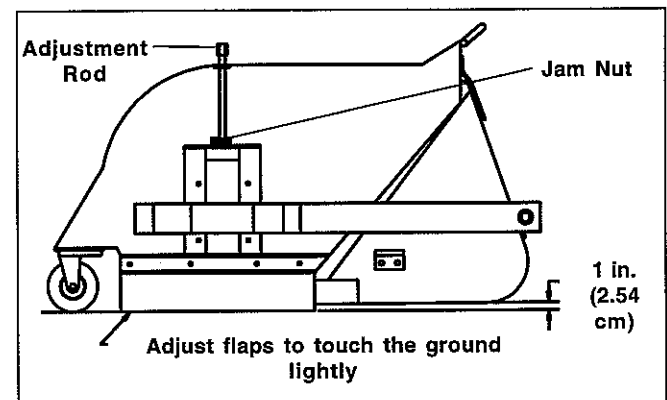

figure 11
8. If the brush pattern is not 2-3 in. (5.08-7.62 cm) wide, adjust the brush height with the adjustment rods (Figure 11). On each side of the sweeper:
9. Adjust the front and side flaps to contact the sweeping surface lightly and evenly (Figure 11).